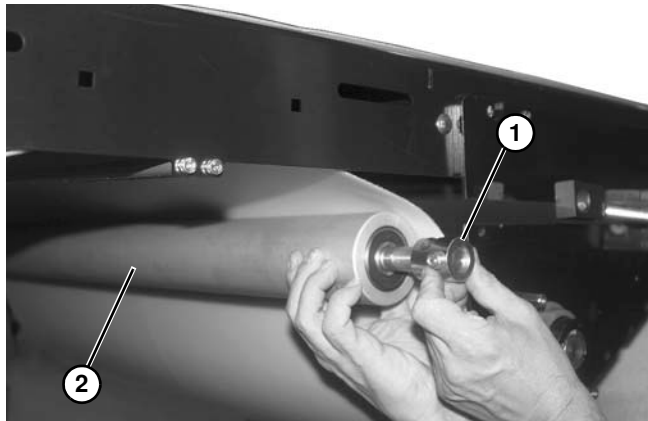

Figure 81
12. Remove locking collar (**Figure 81, item 1**), and slide out tensioning pulley (**Figure 81, item 2**).